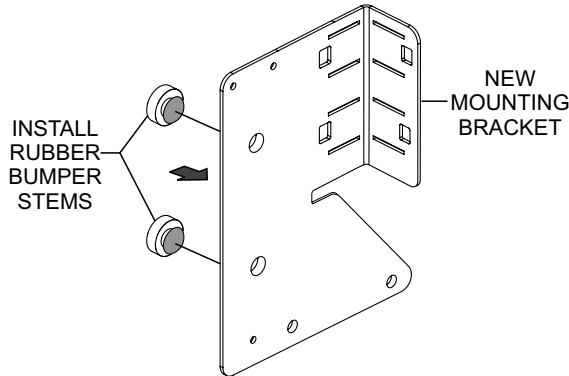

Figure 5. Bumper Stems Installation
- Insert the existing rubber bumper stems (Figure 5) into the hole opening on the **new** mounting bracket (P/N32679).